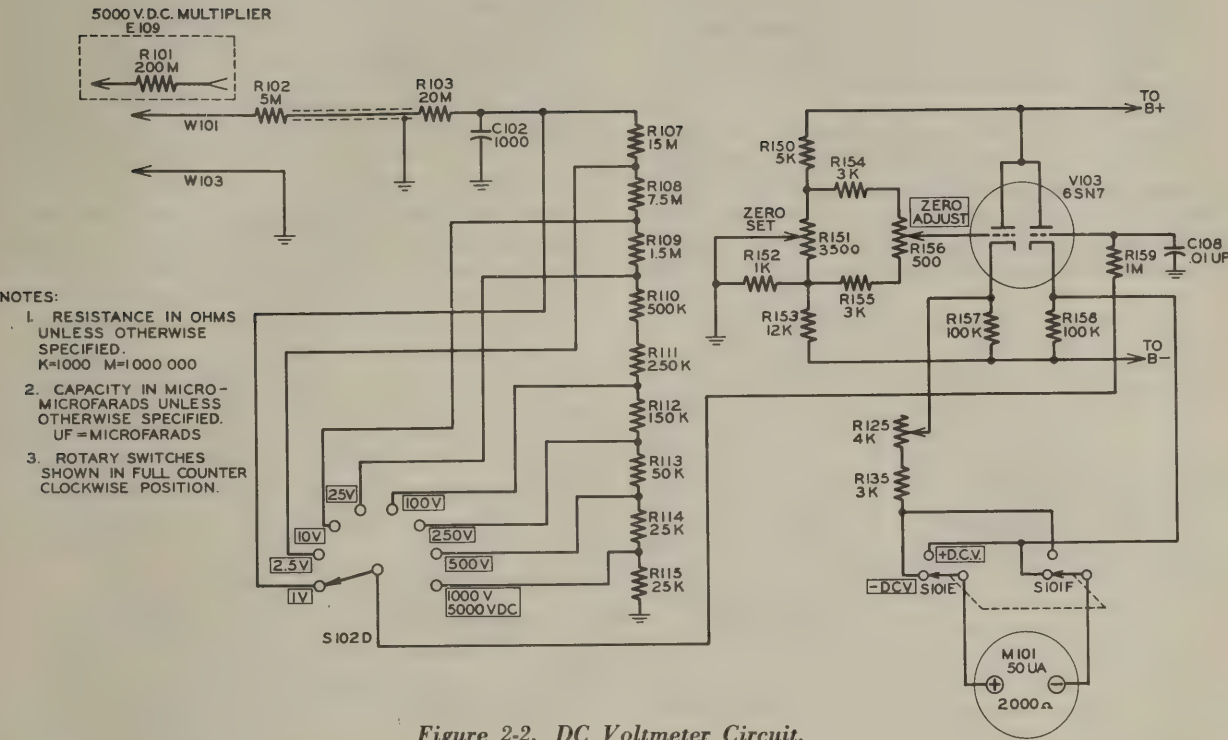

Figure 2-2. DC Voltmeter Circuit.
b. DC VOLTMETER CIRCUIT.—DC voltages up to 1000 volts are contacted with DC probe W-101 and ground return common probe W-103. The circuit is shown in figure 2-2. The total resistance in the input circuit is 50 megohms. Resistors R-102 (in the handle of probe W-101) and R-103 act as isolating resistors for the instrument to reduce the voltage applied to the tapped divider to only half the voltage contacted by the probes. Resistors R-107 through R-115 act as a voltage divider for the remaining voltage. Part of